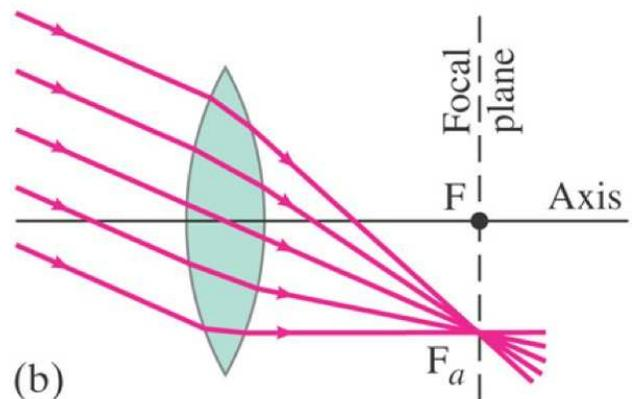

Figure 22.3: Ray Tracing: Focal Plane
7. Measure the distance from the lens to the screen. This distance is f , as shown in Fig. 22.3. Eq. 22.1 shows that when d_o is large, $d_i \rightarrow f$.